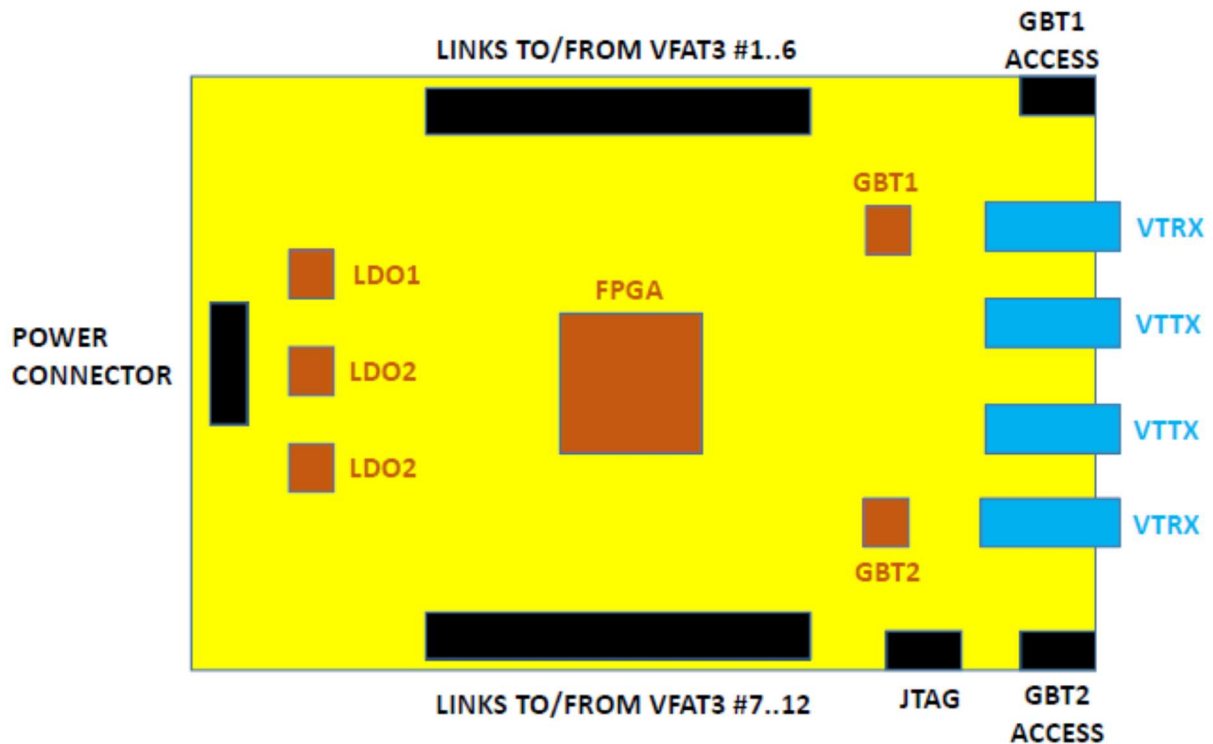

Fig.1. Block diagram of the OH board
The GE2/1 Optohybrid (OH) board provides readout and trigger interfaces for 12 VFAT3 ASICs residing on the GEB board. A comprehensive description of the GE2/1 GEM design and electronics can be found in the Technical Design Report [1]. A block diagram of the OH board is shown on Fig.1.